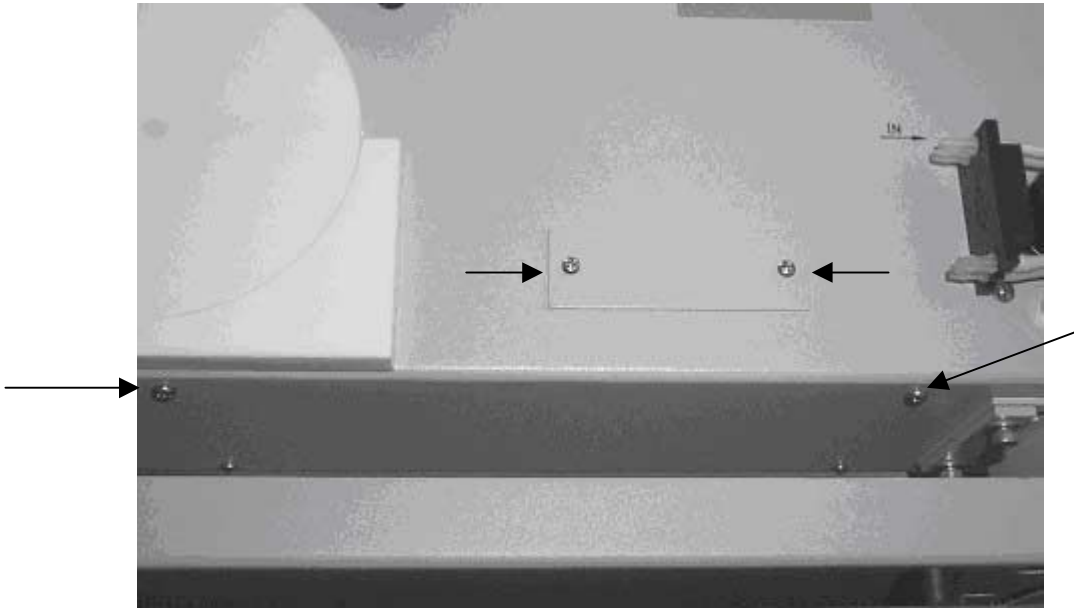

Figure 1-13. Bottom rear view of the ASX-510.
10. Remove the back two screws that attach to the bottom of the I/O board. Also, remove the two screws holding the back spacer panel. See Figure 1-13.